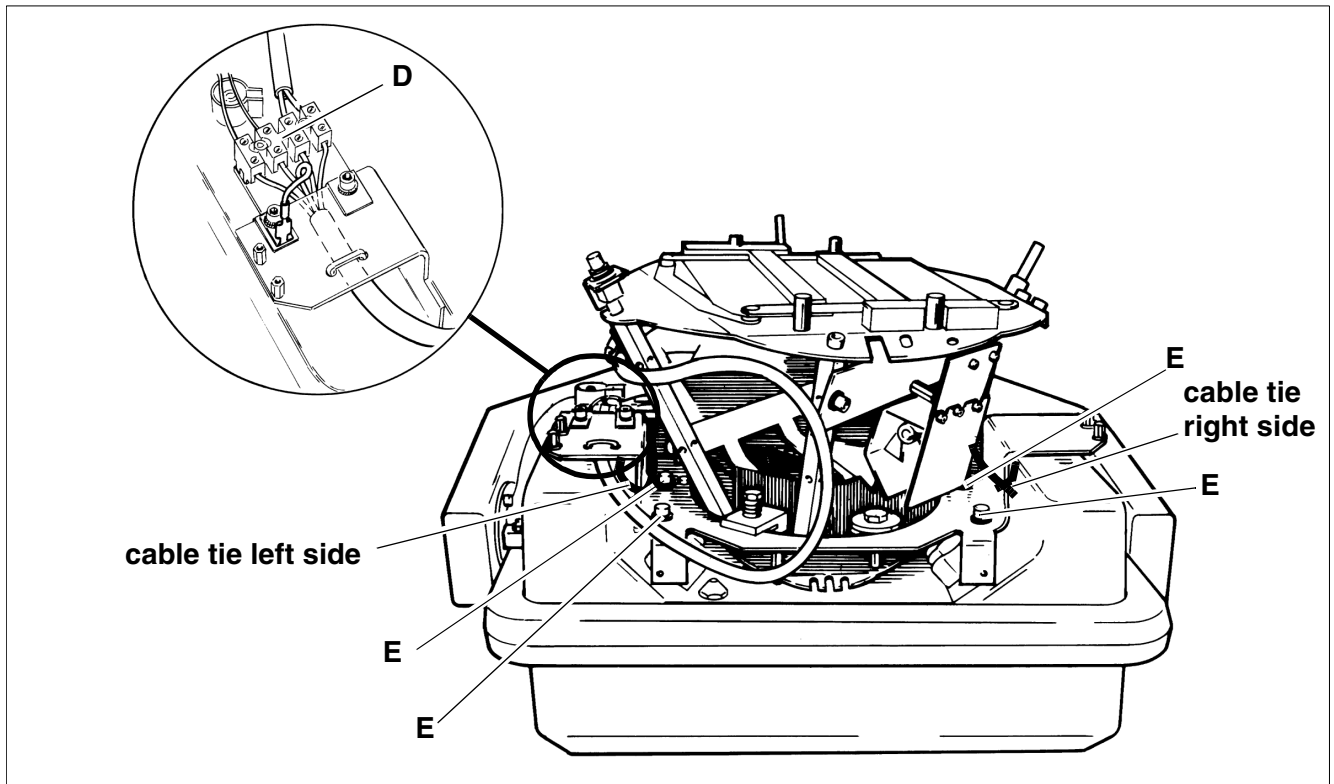

Fig. 1
- Attach the cable ties (Fig. 1). The cable ties have to be mounted exactly as shown in Fig. 2 and Fig. 3. The cable ties should not be tightened hard. Fig. 2 and Fig. 3 shows how the cable tie on the right side is mounted. Repeat for the left side, but with the cable tie mirror-inverted.